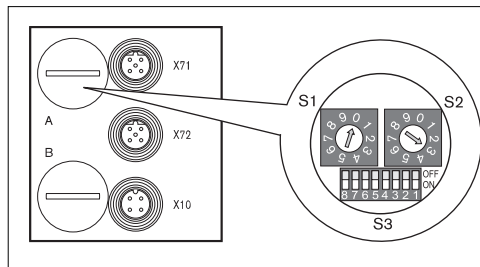

Fig. 8: S1, S2 address switches and S3 mode switch on the bus coupler
- ▶ Assign the station address freely from 2 to 99 using S1 and S2 (see Fig. 8 on page 102):
The S3 mode switch used to set the diagnostic messages is located under PG fitting **A** (see Fig. 8 on page 102).